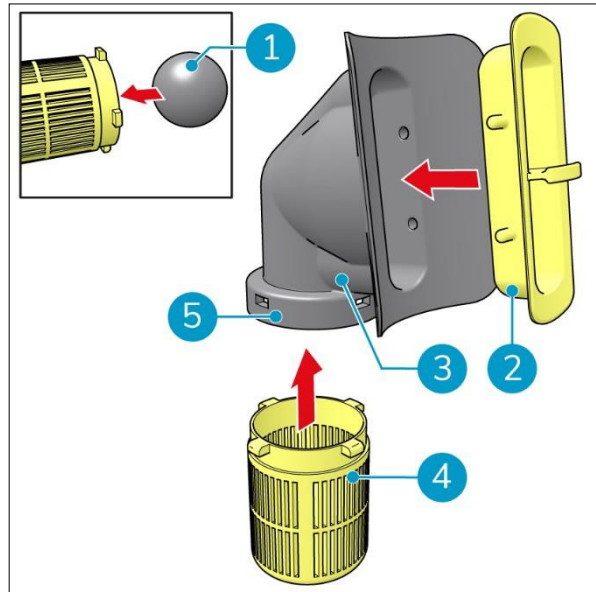

Figure 33
8. Place the floating ball in the float ball housing (Figure 33, pos 1).
9. Press the float ball housing (Figure 33, pos 4) into the rubber housing (Figure 33, pos 3). Make sure that the 4 nocks of the float ball housing fit into the holes in the rubber ring (Figure 33, pos 5).
10. Press the support frame (Figure 33, pos 2) in the rubber housing (Figure 33, pos 3). Make sure that the 4 nocks fit into the holes of the rubber housing.